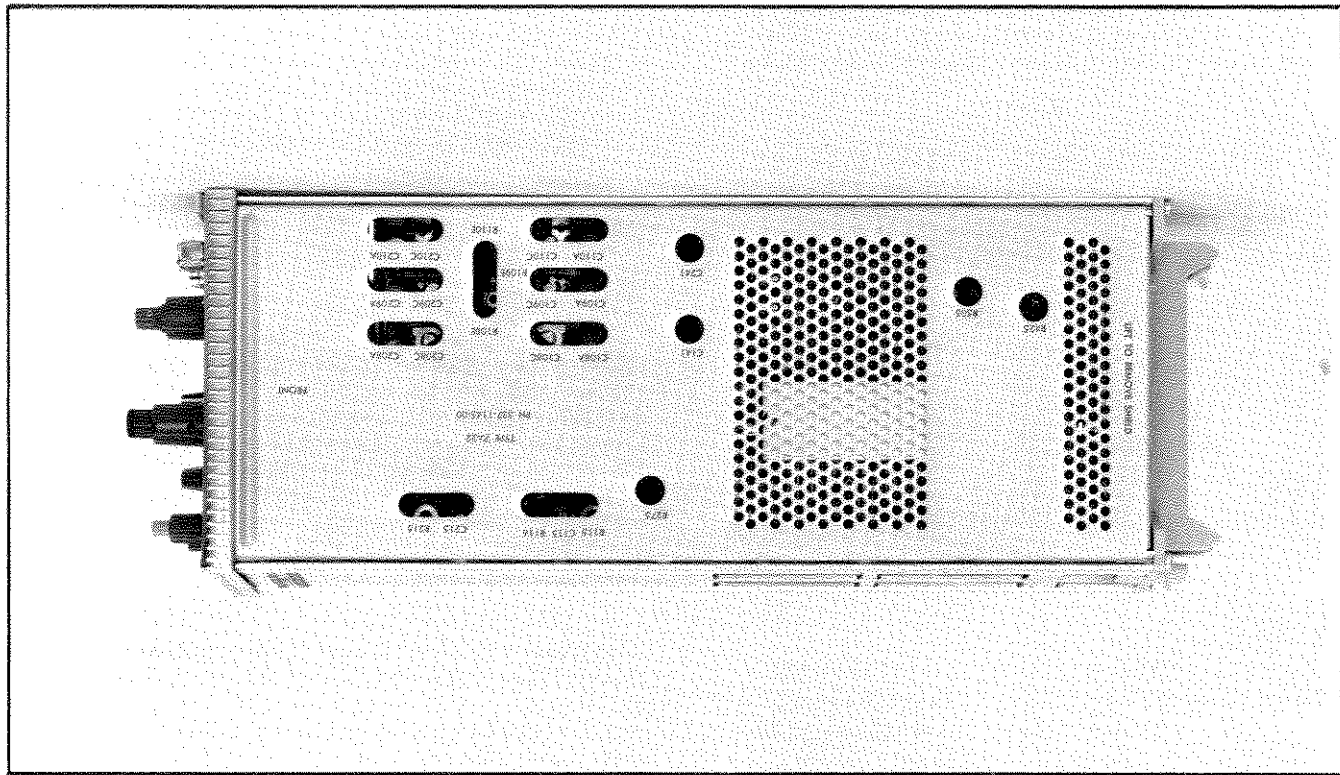

Fig. 5-1. Left side of the 7A22 showing adjustment locations.
- d. ADJUST—AC Step Attenuation control, R505, (see Fig. 5-1) to position the trace within 1.5 div of graticule center.
- e. ADJUST—Variable Bal control, R425, (see Fig. 5-1) for no trace shift while rotating the VARIABLE control.
- d. ADJUST—Coarse DC Bal, R275, (see Fig. 5-1) to position the trace to graticule center.
e. ADJUST—The +Gate Current Zero control, R115, (see Fig. 5-1), to position the trace to graticule center.
e. ADJUST—The -Gate Current Zero control, R215, (see Fig. 5-1), to return the trace to graticule center.